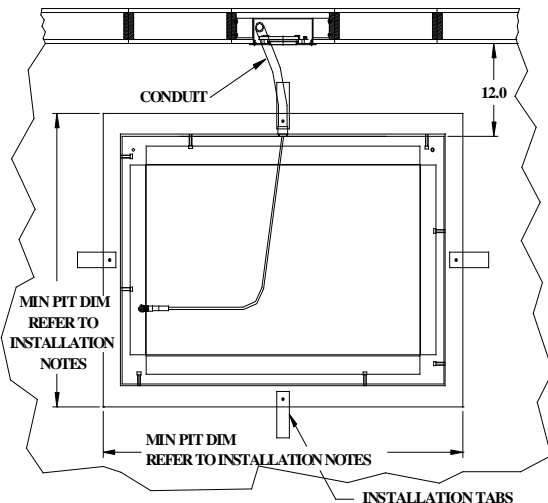

Figure 2: Conduit Placement and Installation Tabs
STEP 3: (Figure 2) Center the Scale Frame in the pit using the supplied installation tabs to suspend the frame in place.